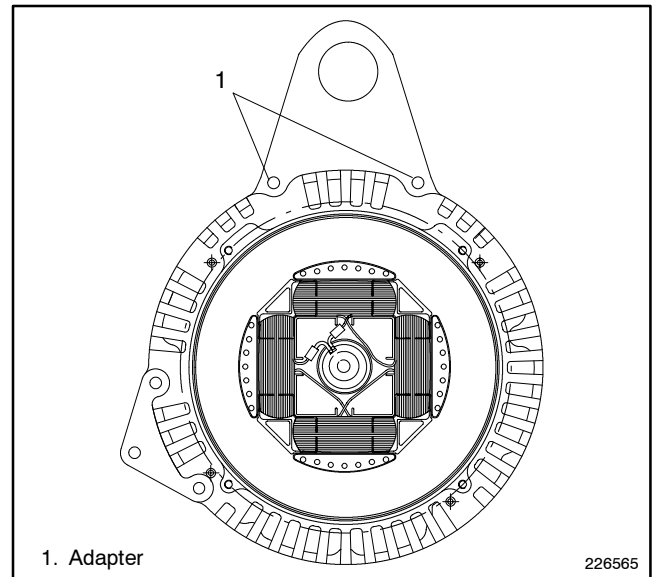

Figure 6-21 Adapter
19. Remove two bolts securing lifting eye to adapter/engine. Remove lifting eye and adapter. See Figure 6-21.